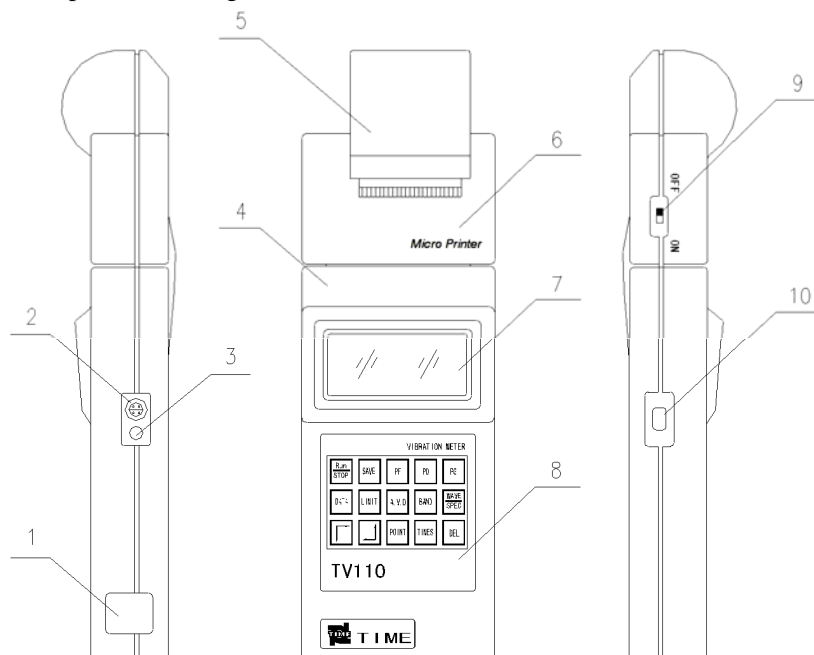

Figure 1. part description of main unit and printer
A. Main unit and micro printer (see Figure 1)